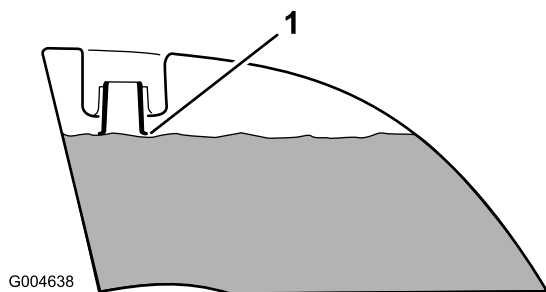

Figure 8
4. Add fuel to both fuel tanks, until the level is even with the bottom of the filler neck (Figure 8). **Do not over fill the fuel tanks.**